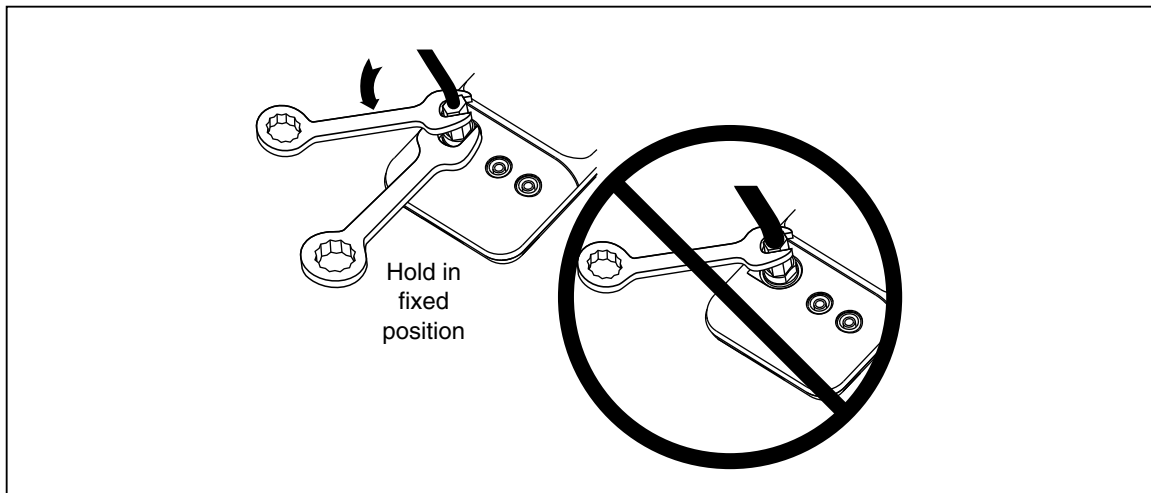

Figure 1. Proper Use of Tools (713, 717, 718, and 718Ex Models)
- Models 713, 717, 718, and 719 only: To avoid mechanically damaging the calibrator, do not apply torque between the pressure fitting and the calibrator case. See Figure 1 for the proper use of tools.